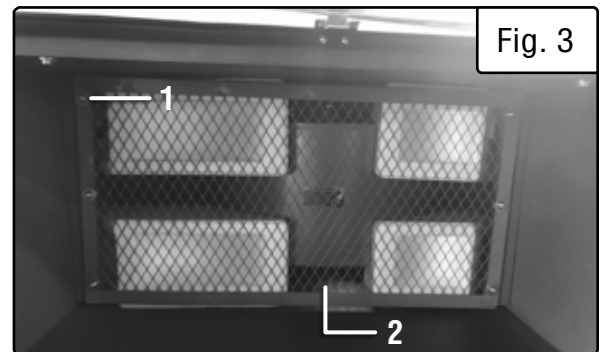

Fig. 3
2. Remove the inner grating (Fig. 3 - 1) by unscrewing the six Phillips head screws (Fig. 3 - 2).